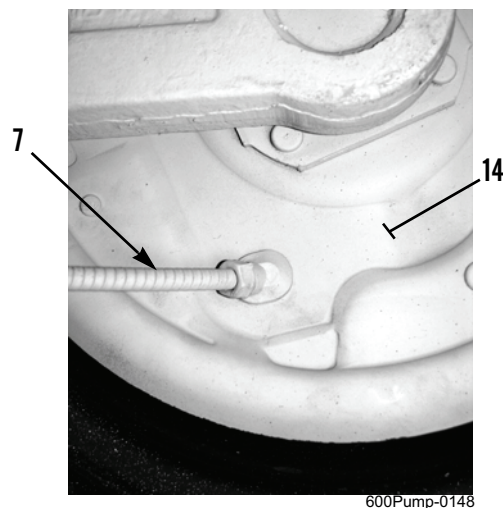

Figure 4. Hand Brake Cable at Backing Plate.
5. Disconnect hand brake cable sheath (Figure 4, Item 7) from backing plate (Figure 4, Item 14).